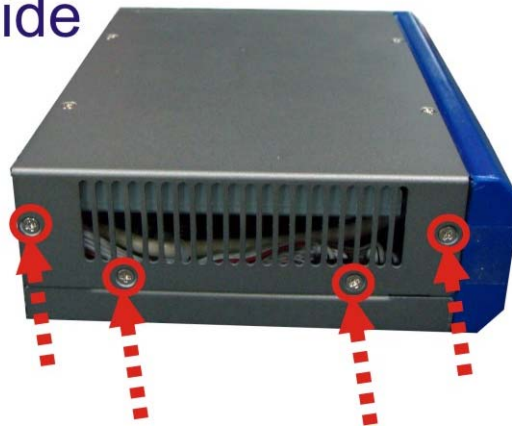

Figure 3-1: Retention Screws Removal
- Step 1:** Remove the top and front panels by removing four retention screws from the top panel, one from the right side, two from the bottom panel and four from the left side panel as shown in **Figure 3-1**.